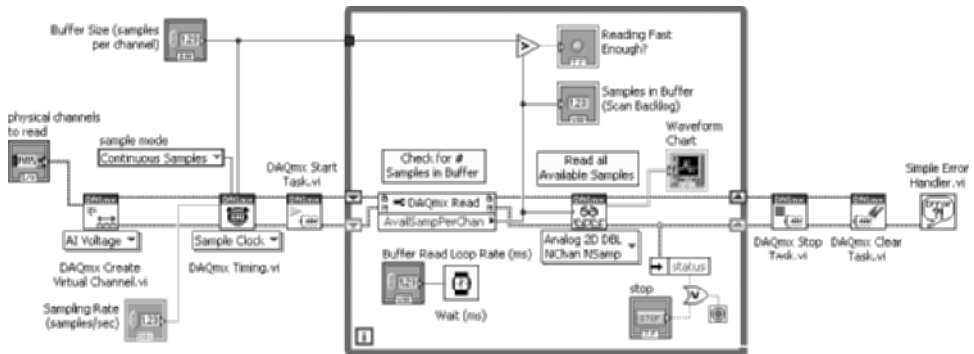

Figure 11.63
2. Build the block diagram shown in Figure 11.63. All DAQmx VIs used in this activity may be found on the **Measurement I/O>>DAQmx Data Acquisition** palette.